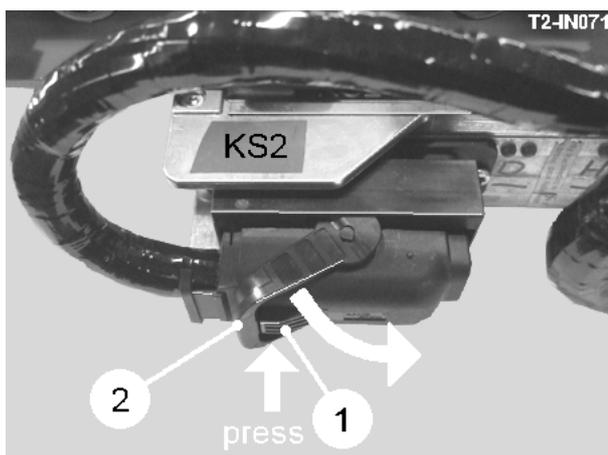
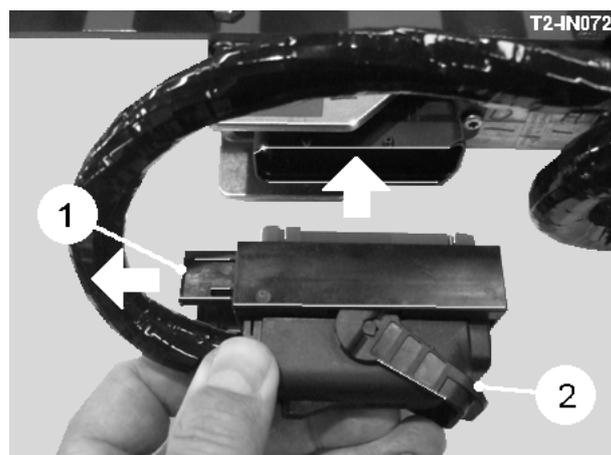

Fig 29
Fig 30
1. Press and hold the button (item 1, fig 29).
2. Fully rotate the lever (item 2, fig 29) to raise and release the plug.
1. Ensure the slider (item 1, fig 30) is fully out by rotating the lever (item 2, fig 30).
3. Rotate the lever (item 2, fig 30) to lower the plug fully into the socket. Continue until the lever is locked behind the button (item 1, fig 29).